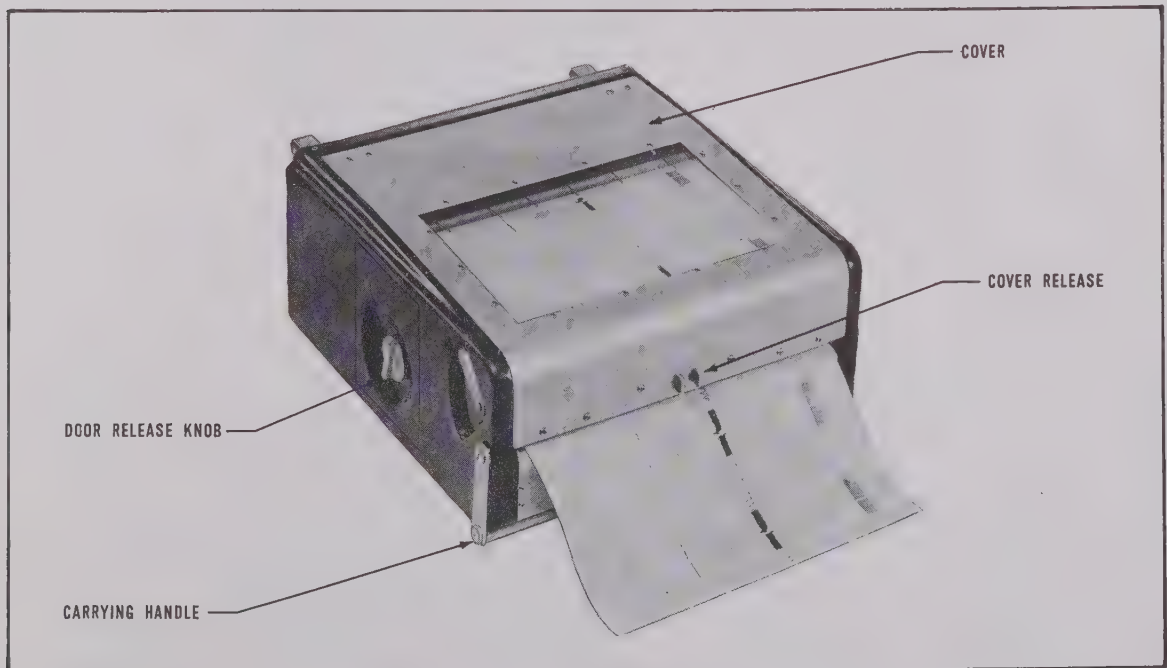

Fig. 2. Brush Portable Six Channel Oscillograph, Model RD 2361 00
3. Lift the COVER of the oscillograph by means of the COVER RELEASE, Fig. 2.